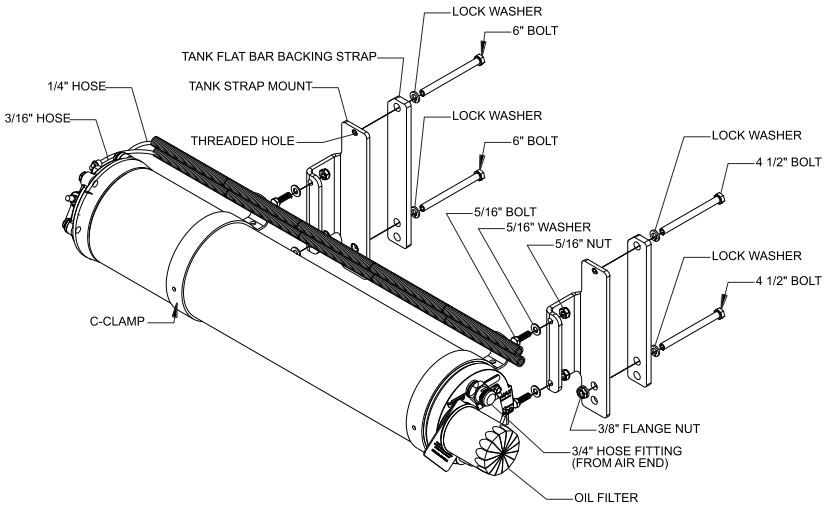

Figure 2.1
- ☐ Insert 3/8" bolt through the tank flat bar backing strap and route the bolt over the top of the frame so that the flat bar is on the inside of the frame rail (Figure 2.1).